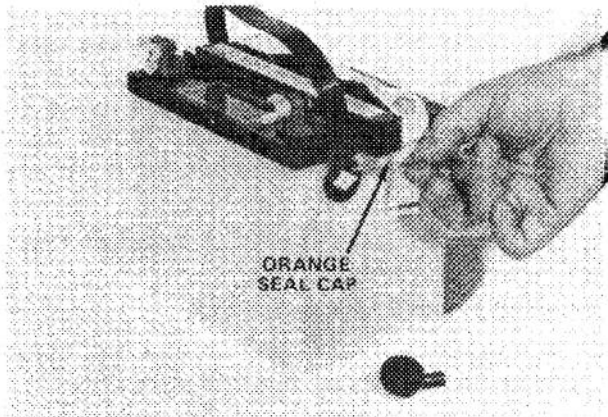
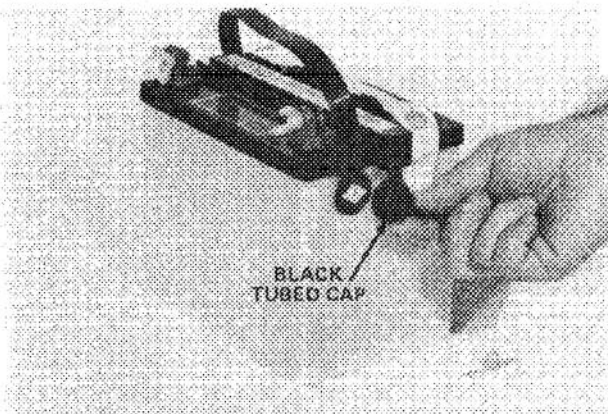

Figure 10
Figure 11
3. Remove and discard orange seal cap from battery (Fig. 10). Install black tubed cap supplied with battery (Fig. 11).